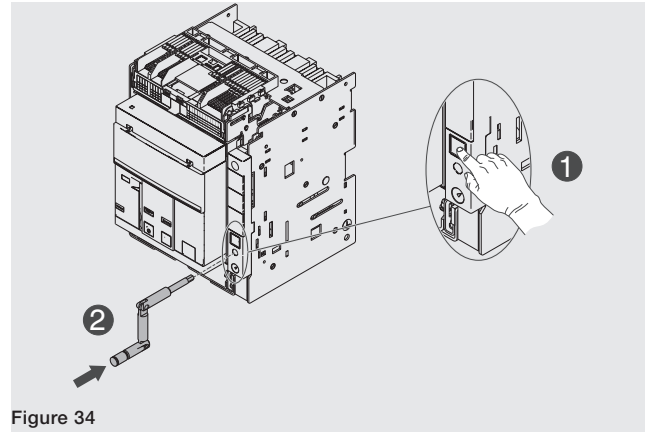

Figure 34
5. Press the lock pushbutton and insert the crank in the moving part. In this phase the moving part is still in **DISCONNECT** position. See Figure 34.